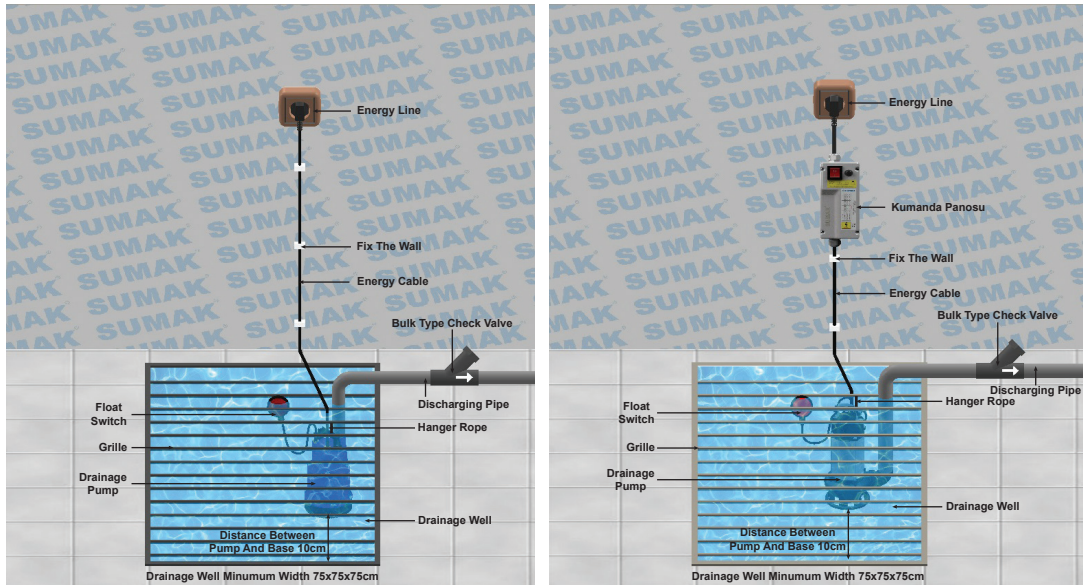

Figure 1
- 32- Please check Figure 1 in Page 17 and Figure 3-4 in Page 20 for usage of pump and assembly information while mounting, check Figure 5-6 in Page 21 and Figure 7 in Page 22 for working mechanism of the float switch, Figure 8 in Page 25 for electric connection, Figure 9 in Page 26 for life security warnings.